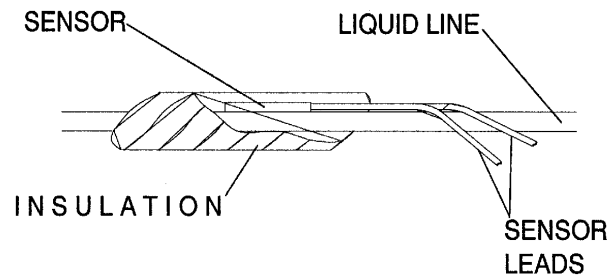

FIGURE 2 - SENSOR INSTALLATION
- Use the insulation tape provided to secure the sensor to the liquid line, refer to Figure 2. Stretch the tape slightly, as you wrap the sensor around the liquid line. Use all the tape, lapping the sensor. Firm contact is required between the metal tab of the sensor and the liquid line.